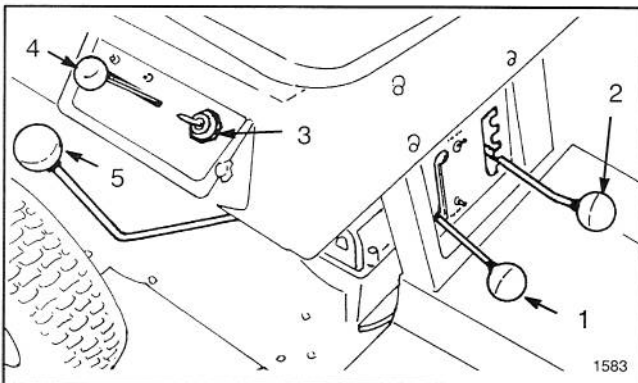

Figure 5
Gear Shift (Fig. 5)—The transmission has five forward speeds, neutral, and reverse. The gear shift lever is located on right side of operator. An interlock switch, which prevents engine from being started when transmission is in gear, is mounted on top of transmission.
Blade Control (Fig. 5)—Blade control engages and disengages the cutter blade. An interlock switch prevents engine from starting when control is in the ENGAGE position. Engine will start when control is in the DISENGAGE position only.
Throttle Control (Fig. 5)—Throttle control connects to and operates carburetor—mounted throttle and choke. Control has three positions: SLOW, FAST and CHOKE.
Height-of-Cut (Fig. 5)—Height-of-cut control varies the cutting height from approx. 38 to 89 mm (1 1/2 to 3 1/2 inches) in five increments.
Ignition Switch (Fig. 5)—Switch has three positions: ON, OFF and START.
2. Move gear shift into neutral and blade control into DISENGAGE detent (Fig. 5).
3. Move throttle control to CHOKE position (Fig. 5) when starting a cold engine. However, a hot engine requires no choking. Move throttle to FAST position for starting.
4. Rotate ignition key (Fig. 5) to START position. When engine starts, release the key and move throttle between FAST and SLOW if choke was used for starting. Operate the rider with throttle control in FAST (full throttle) position for best performance.
1. Move blade control into DISENGAGE detent (Fig. 5).
2. Move height-of-cut control (Fig. 5) into desired setting.